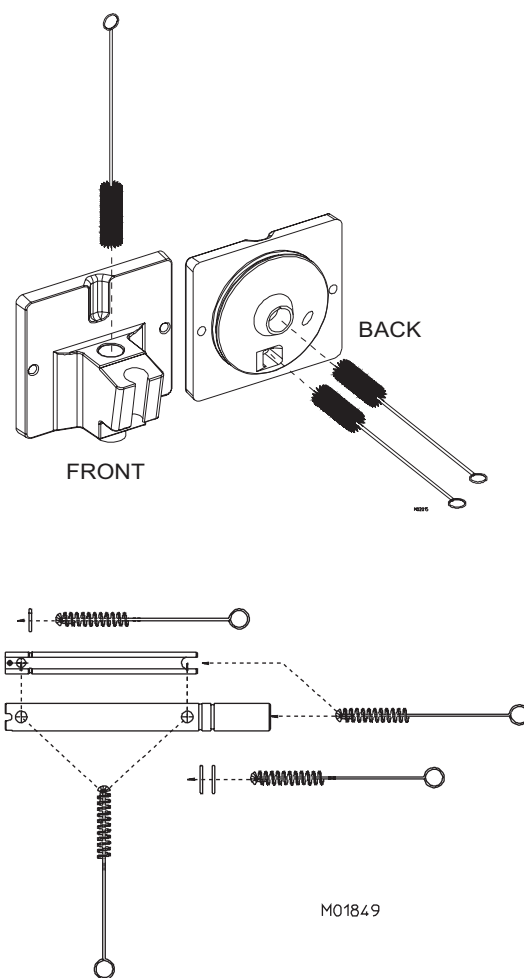

Figure 6-6
- b. The mix feed tube, insert and o-rings as shown in figure 6-6.